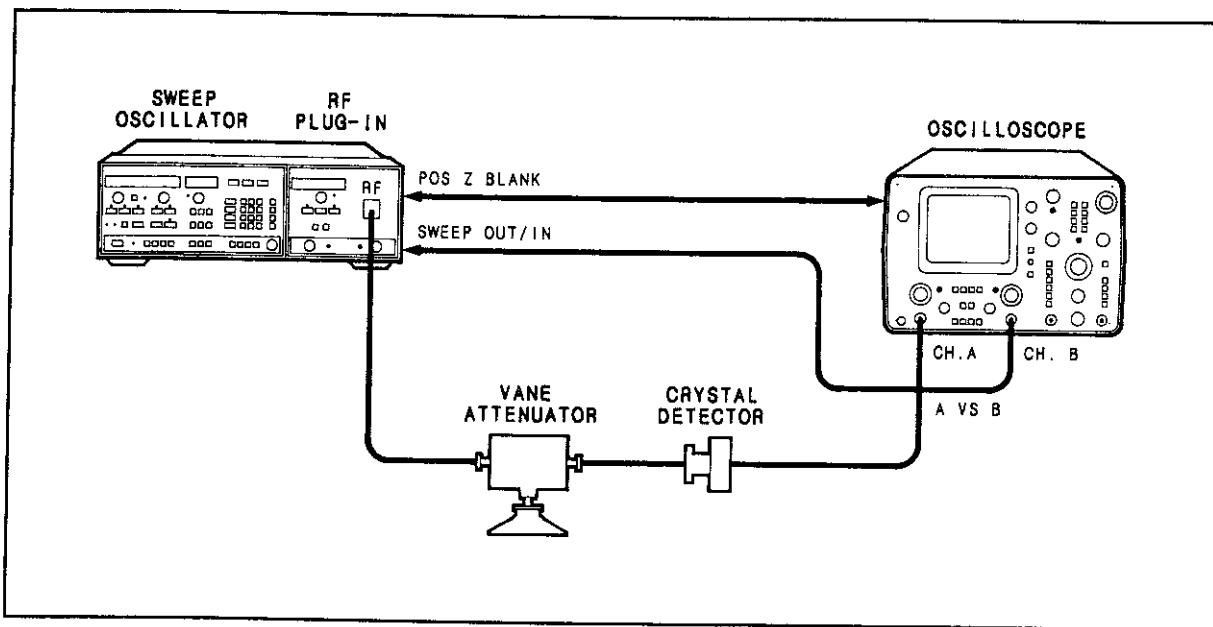

Figure 5-26. On Off Ratio Adjustment Setup
1. Connect equipment as shown in Figure 5-26.